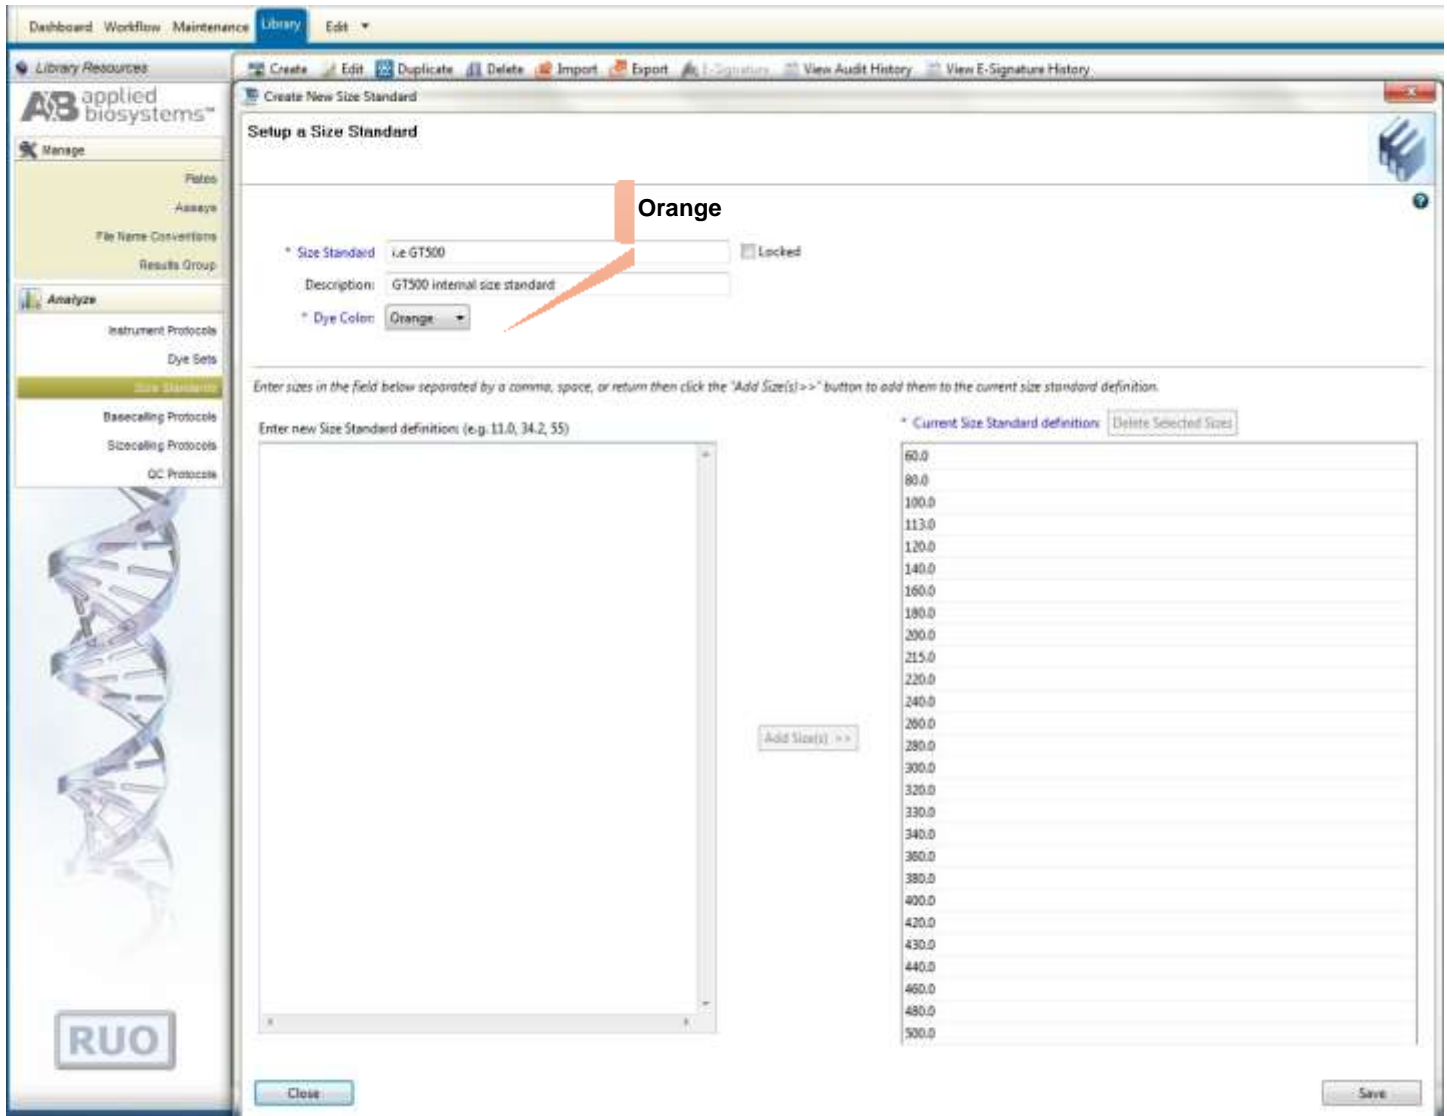

Figure 6. Screenshot for the “Create New Size Standard” window on Applied Biosystems 3500 Data Collection software
- c) Select “Create” (Figure 6)
Users can select settings as shown in the Figure 6 or alternatively may define these settings based on internal validation condition for GT InDel Detector on the Applied Biosystems® 3500/3500xL Genetic Analyzer.